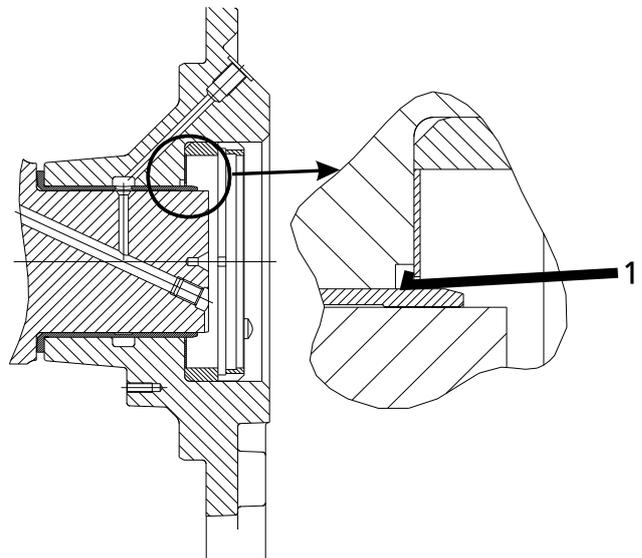

Fig.42: Remove thrust washer with hook (1)
1. Remove the 7 mm. thick housing washer (1) from the hold down disc (4).
2. Remove the needle thrust bearing (2) from the hold down disc (4).
3. Remove the now accessible four M10 socket bolts (3) and the hold down disc (4) which is connected to the shaft washer (5).
4. Remove the shaft washer (5) from the crankshaft.
5. Remove the cylindrical roller thrust bearing (6) from the crankshaft.
6. The released 1 mm. thick thrust washer (7) can be carefully removed with a wire hook as shown Figure 42, Page 26.